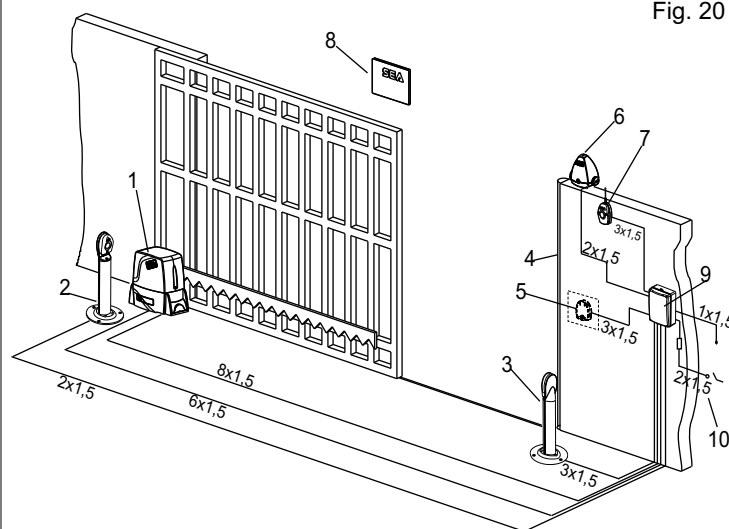

Fig. 20
10. ELECTRIC CONNECTIONS OF THE INSTALLATION (Fig. 20)